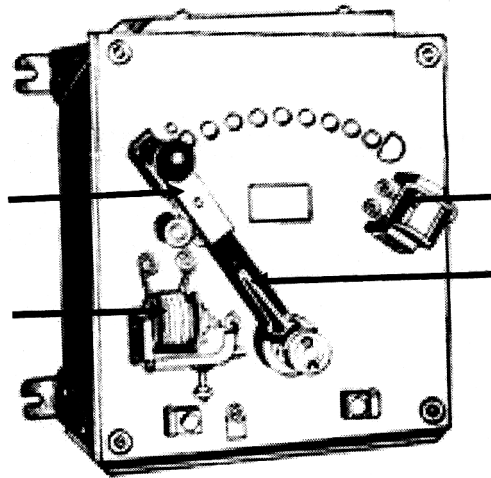

Fig. No. 1
- e) Identify parts of d.c. motor starter shown in Figure No. 1. State function of each part.